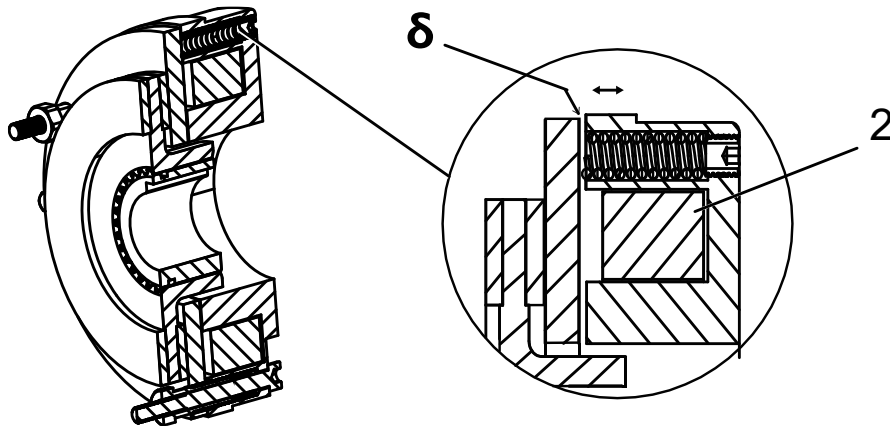

Fig. 6-21 Adjust the air gap
- Adjust the air gap: the standard air gap value $\delta=0.6\text{mm}$ for the electromagnetic (2) brake of three-phase asynchronous motor. See Fig. 6-21.